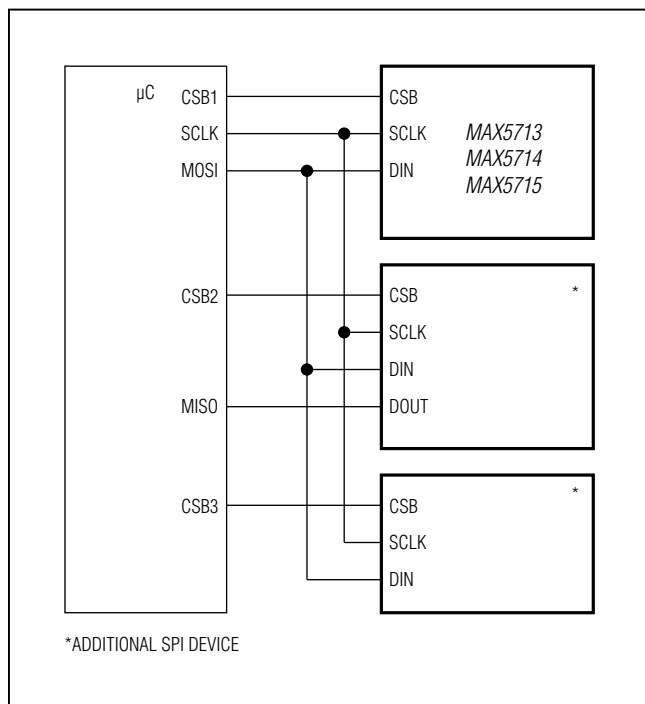

Figure 3. Typical SPI Application Circuit
Figure 1 shows the timing diagram for the complete 3-wire serial interface transmission. The DAC code settings (D) for the MAX5713/MAX5714/MAX5715 are accepted in an offset binary format (see Table 1). Otherwise, the expected data format for each command is listed in Table 2. See Figure 3 for an example of a typical SPI circuit application.